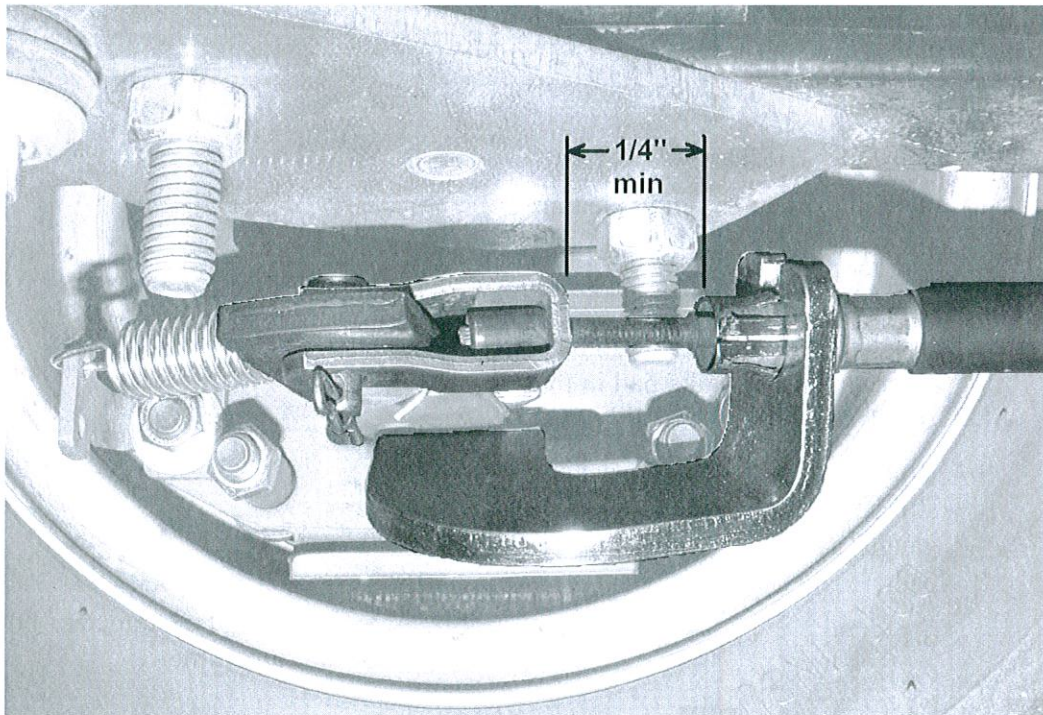

Fig M1 – Determining pad replacement
- c. Check on both calipers that there is at least $\frac{1}{4}$ " of cable showing between the yoke and housing. (See Fig M1) (If there is a rubber boot over the cable, pull it back.)